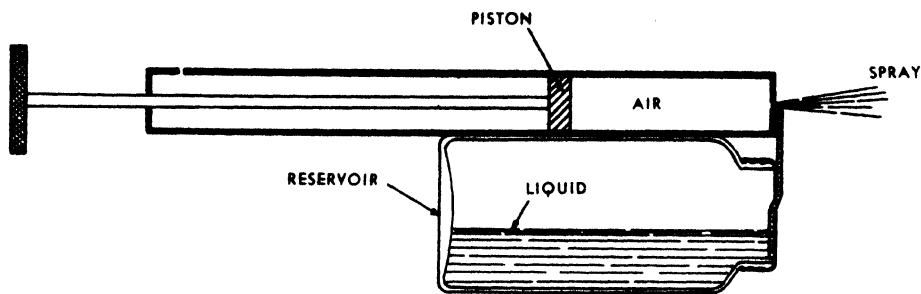
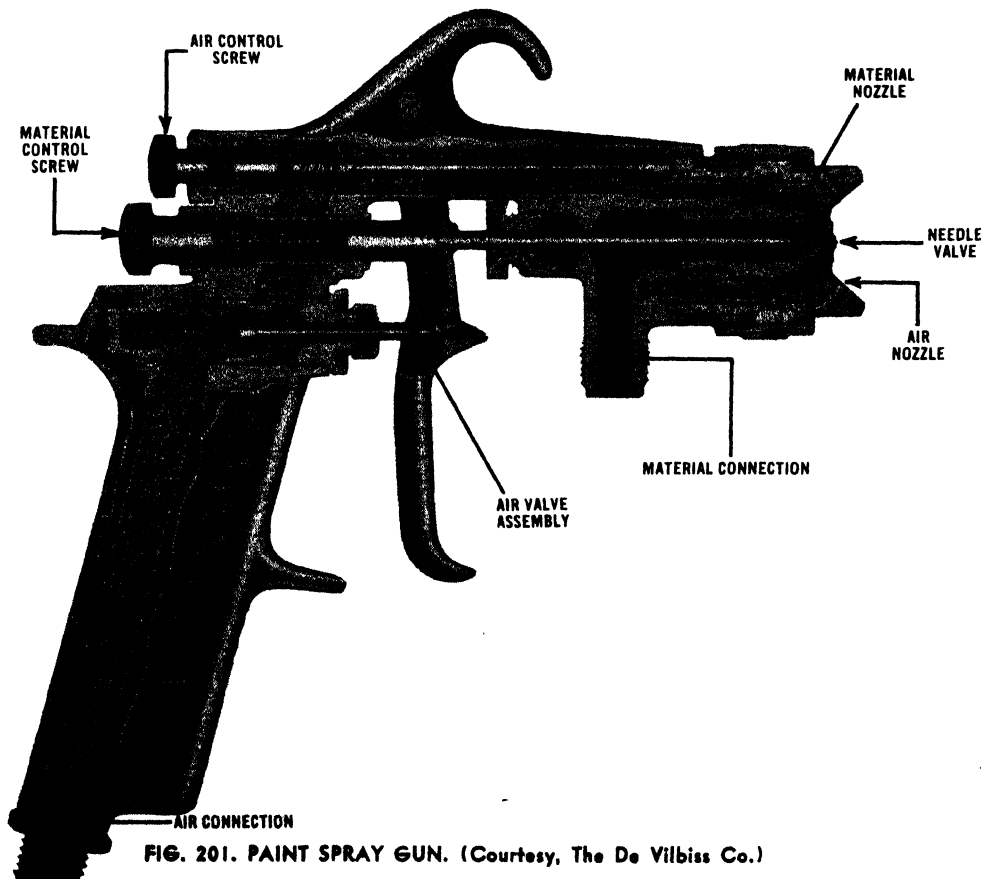

FIG. 200. INSECT SPRAY.
FIG. 201. PAINT SPRAY GUN. (Courtesy, The DeVilbiss Co.)
1. The atomizer or insect spray, Fig. 200, makes use of this principle. As the air rushes over the top of the vertical tube, the pressure in the tube is reduced and the higher air pressure in the tank forces the liquid up to the top of the tube where it is blown out in the form of a spray. This principle is also used in the spray gun for applying paint, illustrated in Fig. 201.